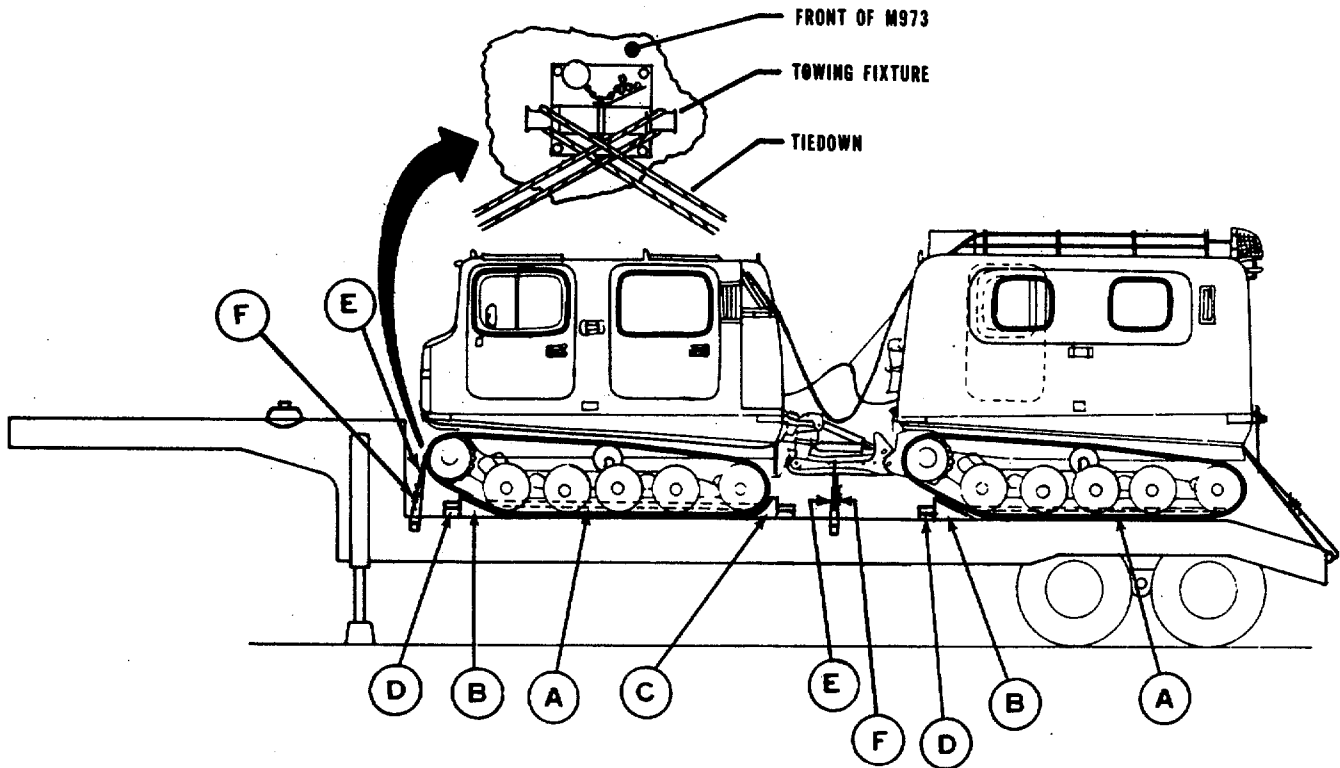

Figure 5-5. Side elevation, tiedown of the M973 on the M172A1 semitrailer.
- a. *General.* Figures 5-5, 5-6, and 5-7 show the M973 loaded on the M172A1 semitrailer.
- d. *Tiedown.* Figures 5-5 and 5-6 show the M973 blocked and tied down on the M172A1 semitrailer. Figure 5-7 is a diagram of the shoring required for the M172A1 semitrailer, and figure 5-8 is a turning diagram for the M172A1 semitrailer. Tables 5-3 and 5-4 are the bill of materials and application of materials used for blocking and tiedown of the M973 on the M172A1 semitrailer.
Table 5-3. Bill of Materials for Blocking and Tiedown of the M973 on the M172A1 Semitrailer (Figs 5-5, 5-6, and 5-7).
(Figs 5-5, 5-6, and 5-7)